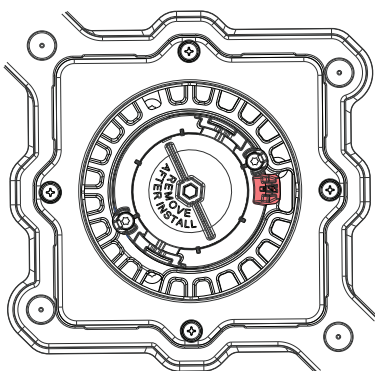

fig. 33
8. Insert the light engine into the D2 housing and align it as shown (see fig. 33, 34, and 35).